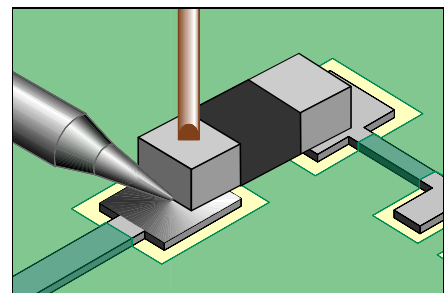

Figure 2: Place the soldering iron tip at the junction between the prefilled pad and component lead.
6. Place the soldering iron tip at the junction between the prefilled pad and component lead. Flow the solder until the component drops down and is soldered in position. Apply additional solder as needed. (See Figure 2).